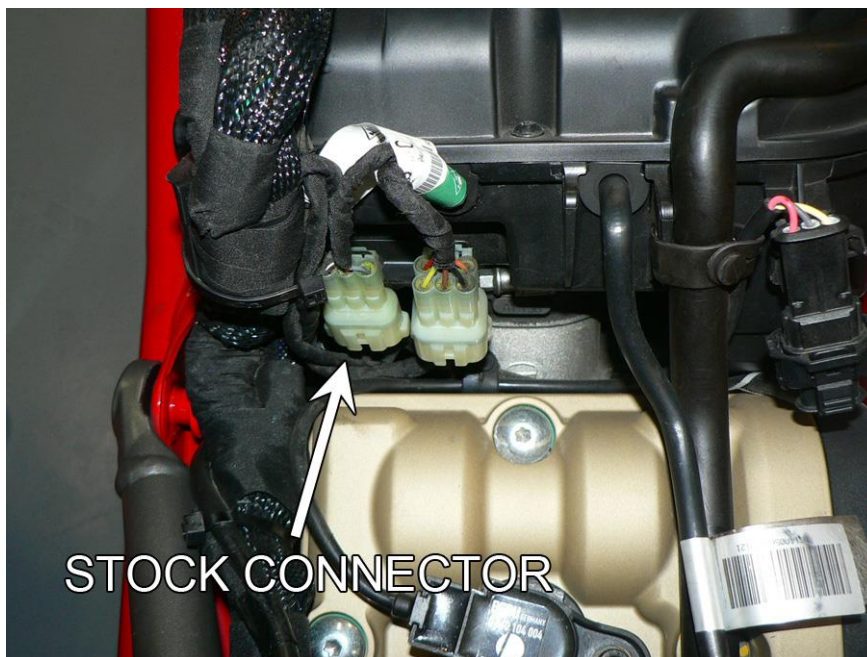

Fig.1
3. Locate and disconnect the white 3 pin connector of injector placed under the fuel tank (**Fig.1**).